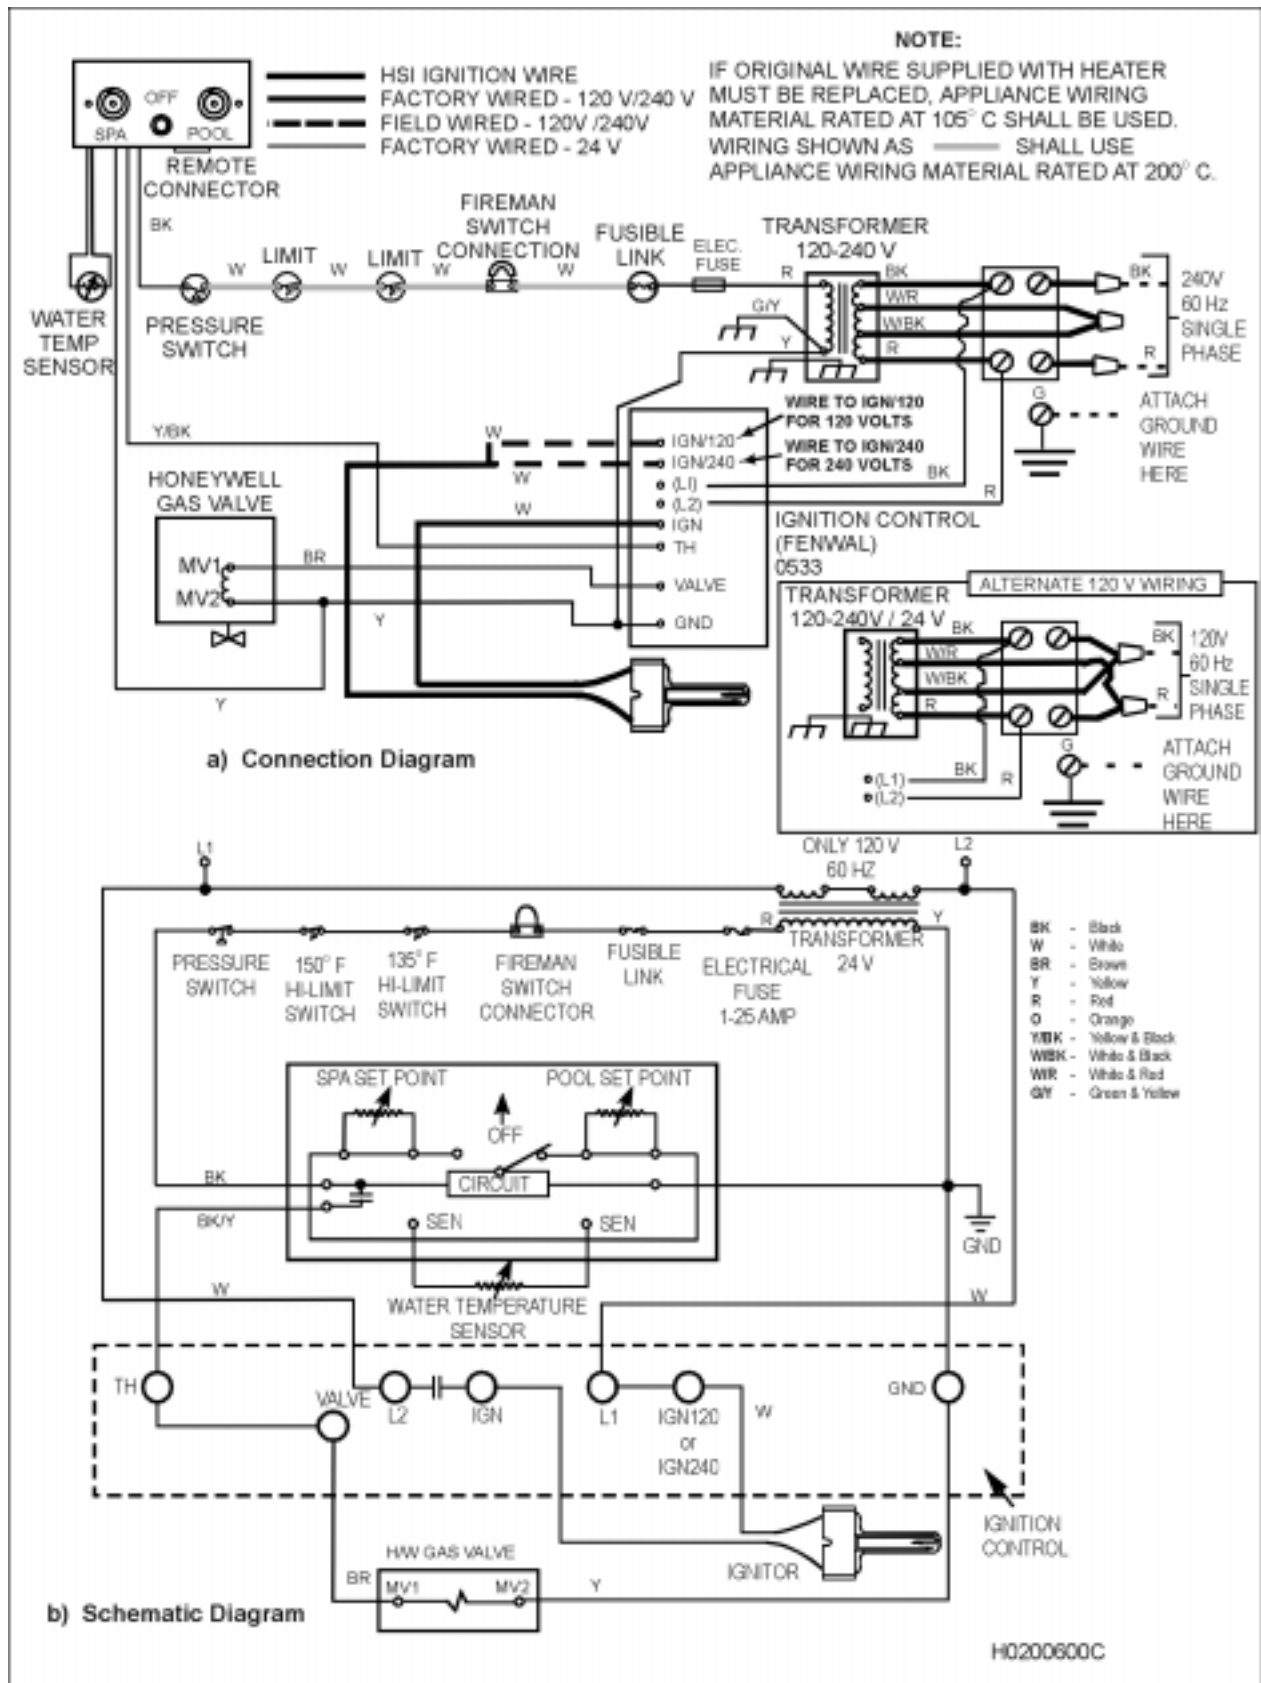

Figure 6. LLD Connection/Schematic Wiring Diagram.
Wiring connections must be made exactly as shown in the wiring diagram found on the inside of the heater (see Figures 6 and 7 for typical examples) and must include a definite means of grounding. There is a bonding lug on the right side of the heater, where a bond wire must be attached.
use 120 Volt, 60 Hz AC requires rewiring of the heater. This should be done by a certified electrician only, as with all wiring. To wire the heater for 120 Volt, 60 Hz AC, follow the alternate 120V wiring method depicted in Figure 6. Additionally, the ignition control module must be rewired. The wire from the terminal marked IGN/240 must be removed from that terminal and placed on the terminal marked IGN/120.
An interrupt (on/off) type remote can be connected by removing the jumper wire on the terminal block located in the control compartment (see Figure 6) and connecting the two wires from the remote to the two terminals on the terminal block. This type of remote control will turn the heater on or off, but will not switch between the two temperature controllers on the Flex-Temp control panel.
10. Tag and disconnect the white wire on the pressure switch (PS) and the white wire on the Fireman's switch terminal (see Figure 6 or 7) which leads to the high limit switch.